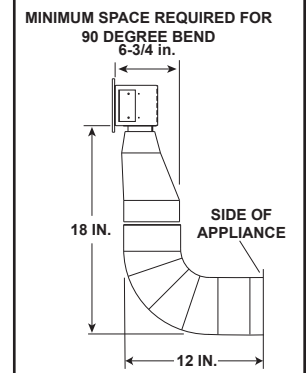

Figure 1
The SMART-WALL-B TV kit conveys warm air from the appliance through an air duct to remote locations in the same room or other rooms of the building. See Figure 1. This kit is only approved for use with the following models:
1. Plan the location of the appliance and the warm air duct run. See Figure 1 for potential installation options.